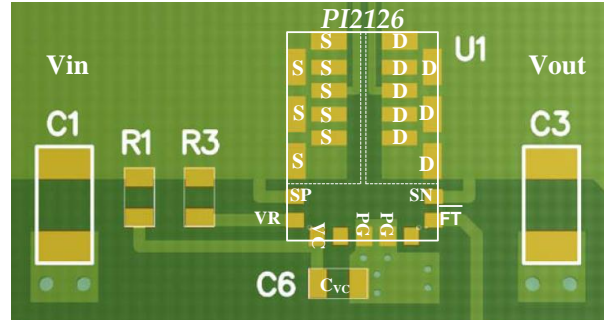

Figure 20: Layout recommendation
Use the following general guidelines when designing printed circuit boards. An example of the typical land pattern for the PI2126 is shown in Figure 20:
- Connect the SP pin to the S pins and connect the SN pin to D pins outside the SiP as shown in Figure 20.
- C6 typically is not required, but if addition bypassing is preferred, Figure 20 shows the appropriate layout for an extra VC capacitor.